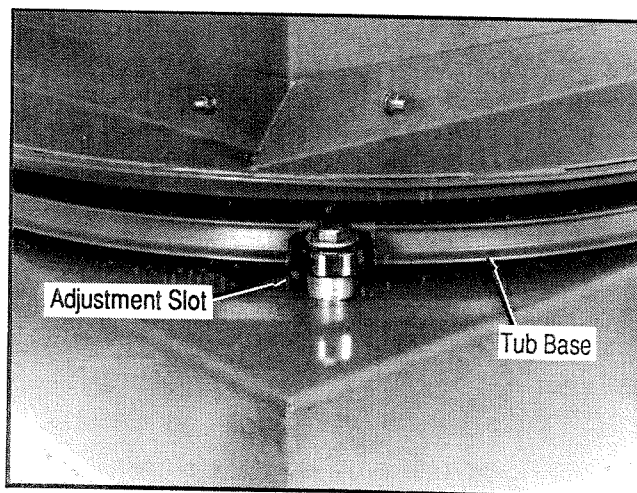

Figure 14. Tub Carrier Bearing Position
3. Check the tub carrier bearings and make necessary adjustments. See Figure 14.